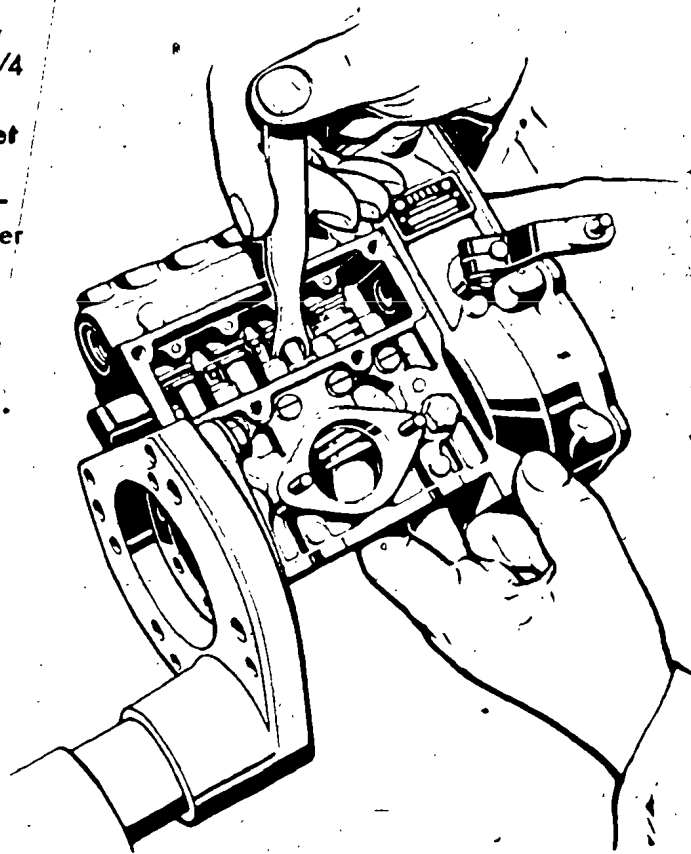

Fig. 5 Removing the upper spring seat by using mounting lever EFEP 307
6. Again tilt pump into horizontal position. Slacken tappet-locating screws (9) a few turns. By means of wooden stem EFEP 91/4 of tappet forceps EFEP 91, force tappet upwards and simultaneously remove tappet holder pin. Remove tappet by hand and place same into the appropriate compartment of the tray. Take care that the roller pin (6), roller (7) and bearing bush (8) do not get lost or become interchanged with those of other tappets. Pull out pump plunger (14) along with bottom spring support (10) by hand and set aside.
7. Remove plunger spring (11) and upper spring seat (12) by pushing downwards. To do this, press plunger spring from underneath against spring seat and press the latter against the spring by using mounting lever EFEP 307. Now spring and seat together are expelled through the tappet guide by pushing downwards gently and without force (Fig. 5). By doing this, tilting of the spring seat in the tappet guide and damage to latter is avoided.
8. Remove control sleeve (13) and carefully expel pump barrel (14) by pushing upwards.
9. If necessary, remove bearing end plate (46b) at pump side 2. To do this, remove the 4 securing bolts (47b) together with lock washers (48) and carefully force the cover outwards from the inside. If the outer ring of ball bearing (40b) has to be removed, it should be withdrawn by means of a conventional bearing extractor or extracting collet EF 3108 in conjunction with puller bell EF 3043.